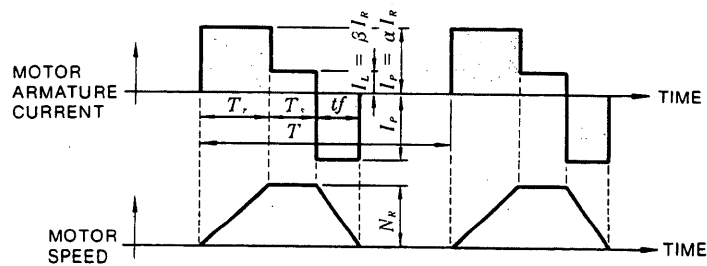

Fig. 7.3 Timing Chart of Motor Armature Current and Speed
③ When the motor repeats rated-speed operation and being at standstill (See Fig. 7.3)